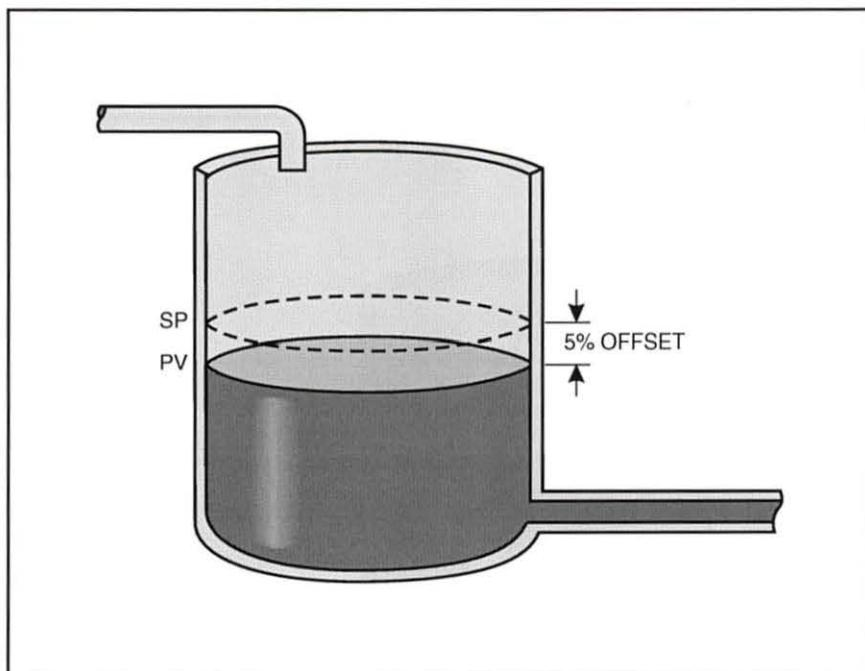
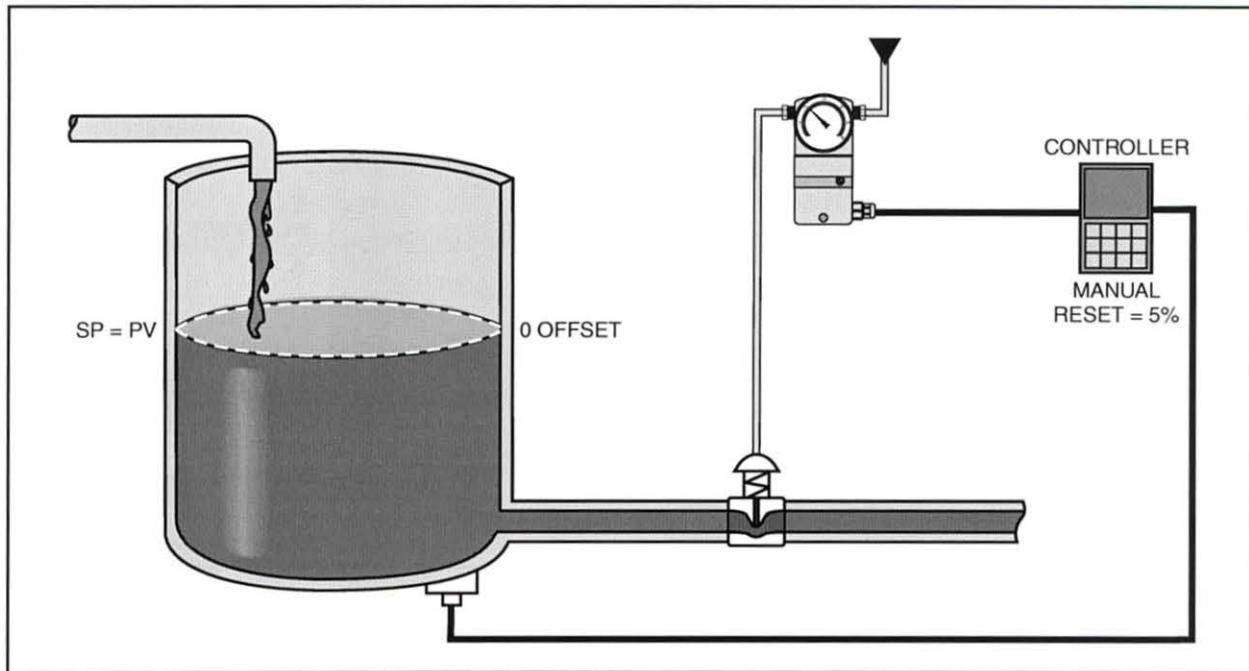

Figure 26. Offset in a Proportional System
Figure 28. Proportional System with Manual Reset
For example, the level control system in figure 26 has a 5% offset using a proportional controller without manual reset. This offset is what enables the controller to provide the output that is needed to make the inflow match the outflow at steady state. If the error goes to zero, the controller output also goes to zero because of the proportional relationship between the output and the error. This would cause the tank level (PV) to move away from the SP.
If the manual reset is adjusted to 5% in the system in figure 26, the offset is eliminated, as shown in figure 28.